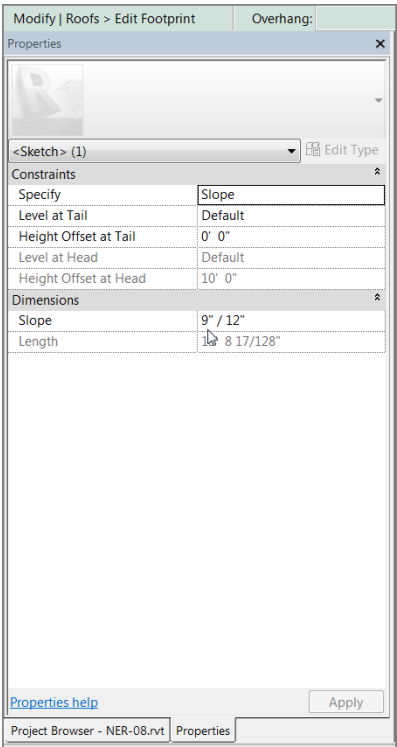

FIGURE 7.63 : Changing the values of the slope arrows
- 8. Under Dimensions, keep the slope at 9" / 12" (750/1000mm) (see Figure 7.63).